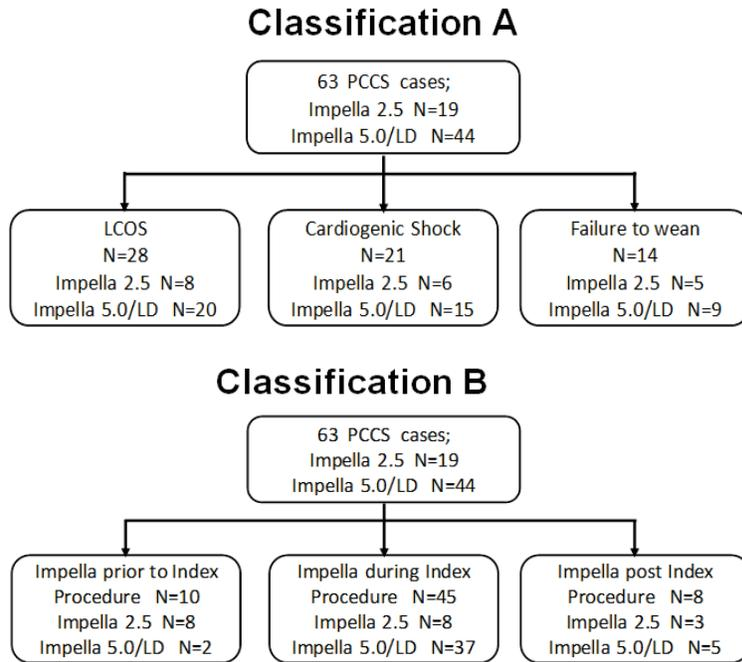

Figure 6.20 Groups used for each classification analysis
Failure to Wean (PCCS-FW). In the other analysis, Classification B, which was specifically requested by FDA, the patients were categorized in three (3) different groups, to evaluate separately patients that received Impella before, during the operating time (during the surgical procedure) and after the surgery. The groups included in each category are shown in Figure 6.20.